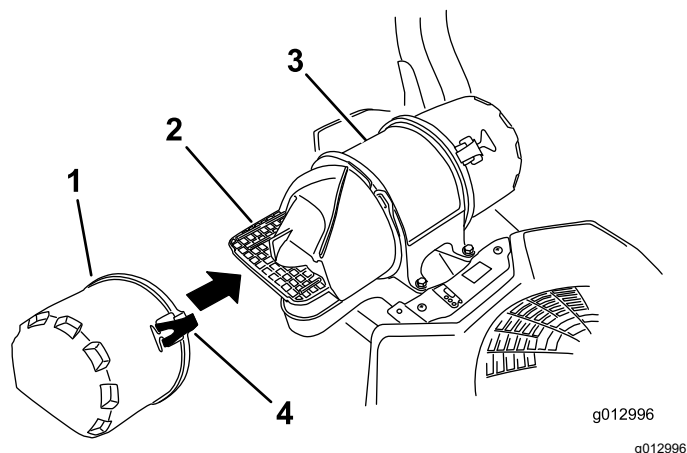

Figure 46
3. Release the latches on the air cleaner and pull the air-inlet cover off the air-cleaner body (Figure 46).
5. Install the air-inlet cover and secure it with the latches (Figure 46).